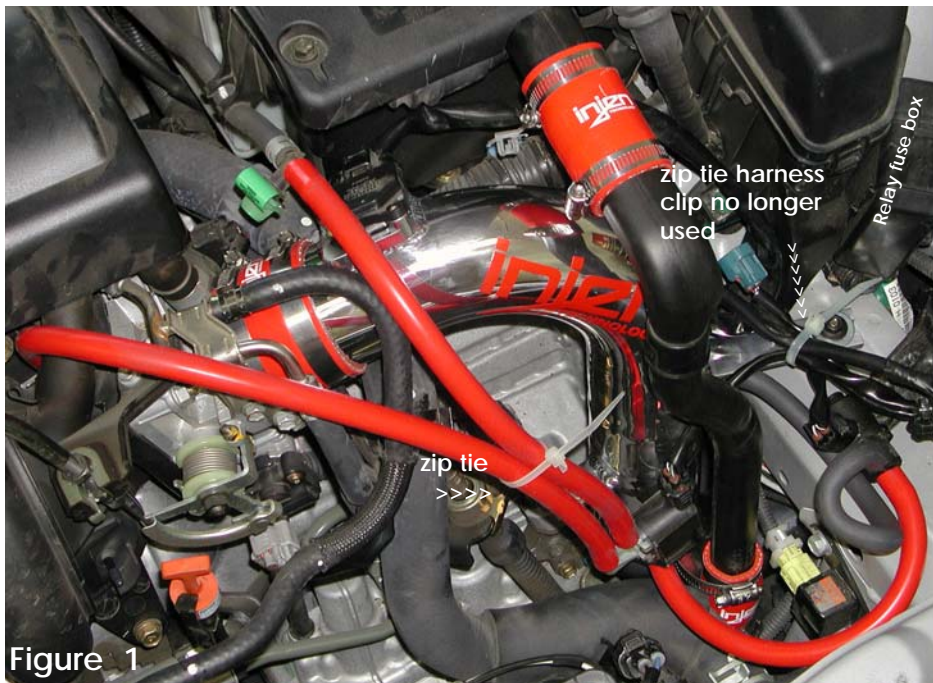

Figure 1
- 3 Remove the black relay fuse box from the bracket bolted to the car frame. (See figs. 1) Remove the stock m6 bolt holding the bracket in place and set the OBD canister on top of the bracket. Screw the stock bolt tight in place securing the OBD canister to the bracket. Take the vibra-mount and screw it into the tapped hole right above the OBD canister. (See fig. 6)
- 7 Take the air temperature sensor and press it into the CNC machined flange on the C.A.I. Use the stock screws to fasten the sensor in place. Take the complete intake system and slip the filter end into the hole made earlier in step 4 and press the upper end into the straight hose on the throttle body as seen in figures 1 and 11. Make sure the long slotted bracket on the intake lines up to the vibra-mount stud and use the m6 nut and washer to semi-tighten in place. (See fig. 8)
- 11 Align the entire C.A.I for best fit. Once proper clearance has been made throughout the length of the intake, continue to tighten all nuts, bolts and clamps. (See fig. 1)
- 13 Plug the air duct back in place as seen in figures 1 and 10. This piece is required on a warm day to keep the ECU cool. This will prevent the "check engine" light from appearing.
- 14 Use the zip ties as seen in figures 1 and 10 to move any hose or harness away from belts and cables. **Zip ties** are used as a safety precaution to prevent any injuries. Use the **3mm cap** to plug the port on the engine block as seen in figure 4.